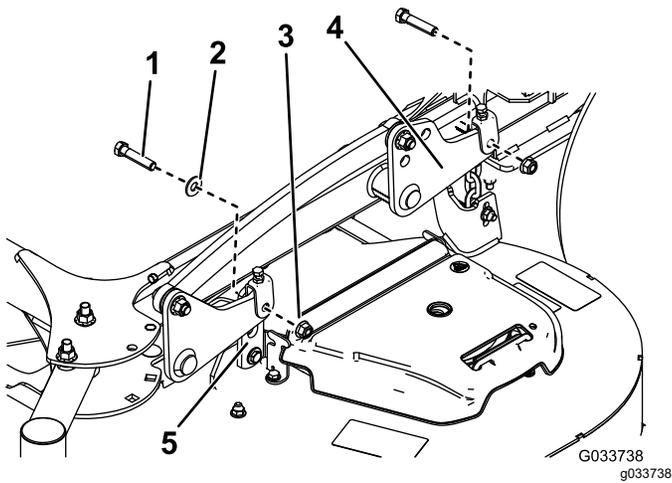

Figure 88
5. Remove the 2 bolts, 2 nuts, and washer connecting the mower-deck hangers to the lift plates for both sides of the mower deck (Figure 87 and Figure 88).
Note: Mount the front hanger brackets on the outside of the front lift arms for 52-inch decks (Figure 87). Mount the front hanger brackets on the inside of the front lift arms for 60-inch decks (Figure 88).